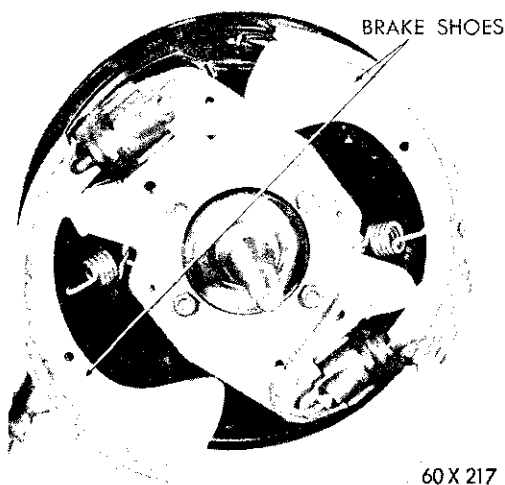

Fig. 9—Removing or Installing Brake Shoe (Front)
(5) Slide the shoes from between the support plates, as shown in Figure 9.
(1) Install the brake cylinders on the support plates, position the support plates on the dust shield. (Be sure the dust washers are in place, see Figure 9.)